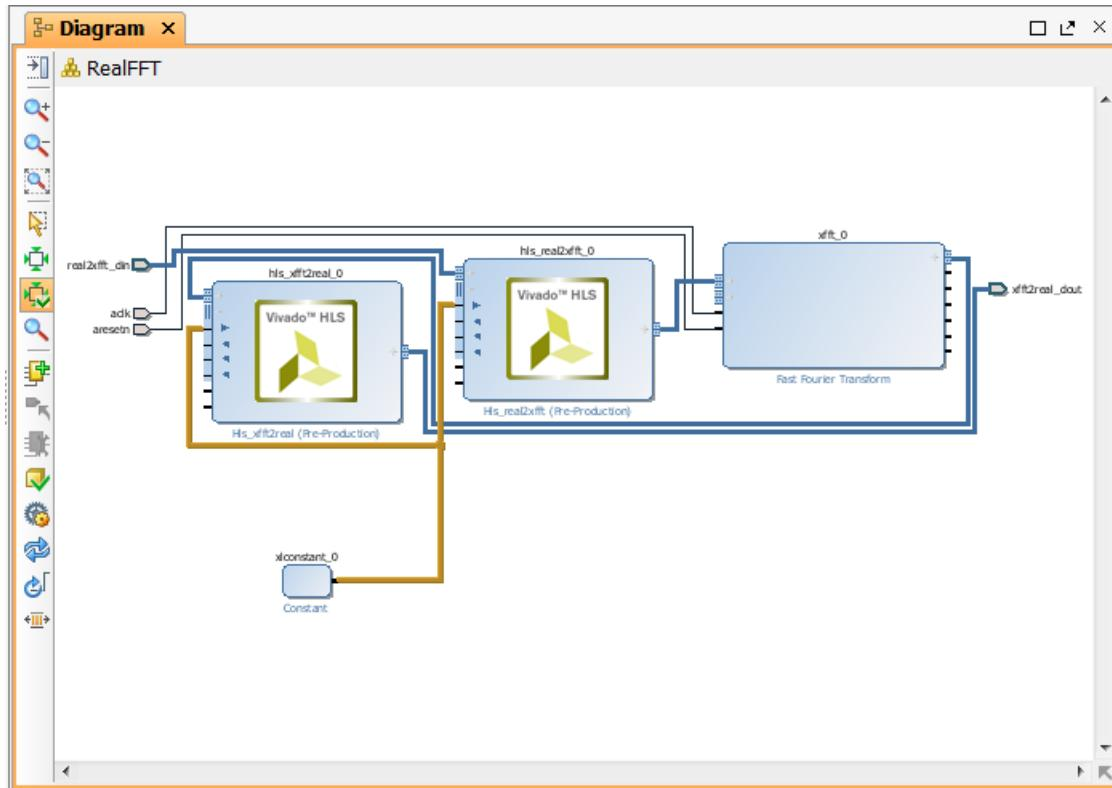

Figure 9-22: Connect AP_START to Constant
g. Connect `ap_start` in both HLS blocks to the Constant block (Figure 9-22).